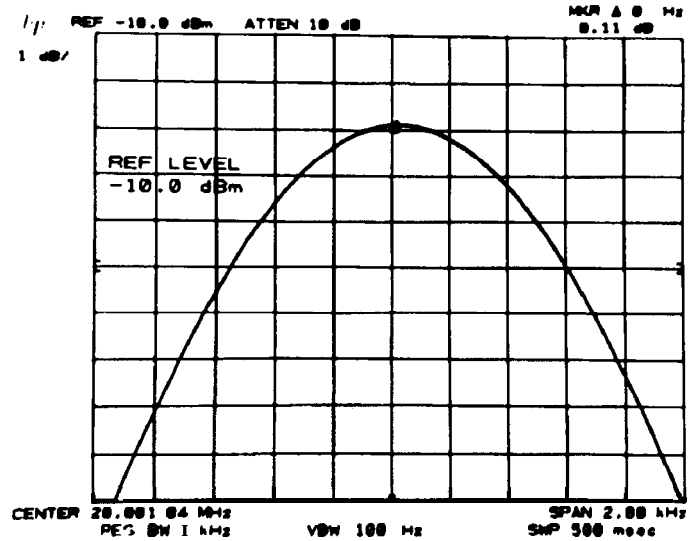

Figure 2-10. IF Gain Uncertainty Measurement
12. Set the analyzer **(REFERENCE LEVEL)**, **(VIDEO BW)**, and frequency synthesizer amplitude according to Table 2-9 settings. (Use the frequency synthesizer **(↓)** for 10 dB steps.) At each setting, note the MKR A amplitude displayed in the upper right corner of the analyzer display (deviation from the 0 dB reference setting) and record it in the table. See Figure 2-10.